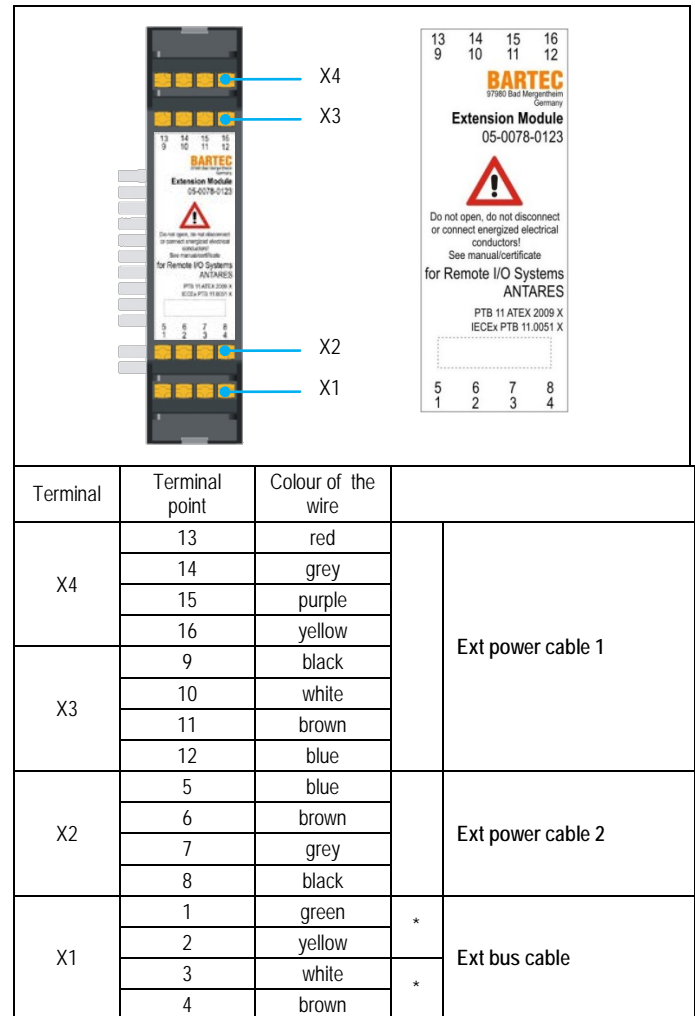

Figure 9: Terminal assignment
- Connect the cables in conformance to the terminal assignment (figure 9).
The cores in the Ext bus cable and the Ext power cables must be connected to the terminal points in the two extension modules in accordance with the terminal assignment (see figure 9).